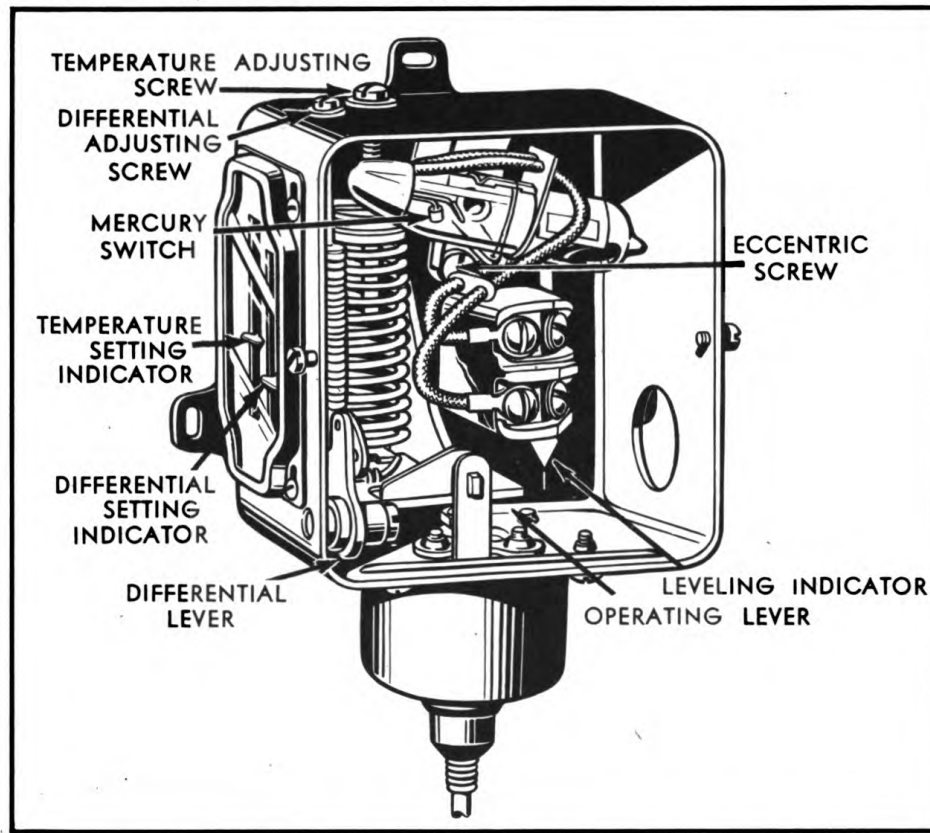

FIG. 33 Temperature Regulator Control Box
c. TEMPERATURE CONTROL MERCURY SWITCH BROKEN (See Fig. 33)
Remove cover and note position of mercury in the switch. Mercury is normally in the terminal end of the switch when the shower unit is cold, or below 105 degrees F. (Fig. 33 shows mercury in its off position, such as when temperature of shower unit is above 110 degrees F.). If the glass tube has been broken, a new mercury switch should be installed as follows: